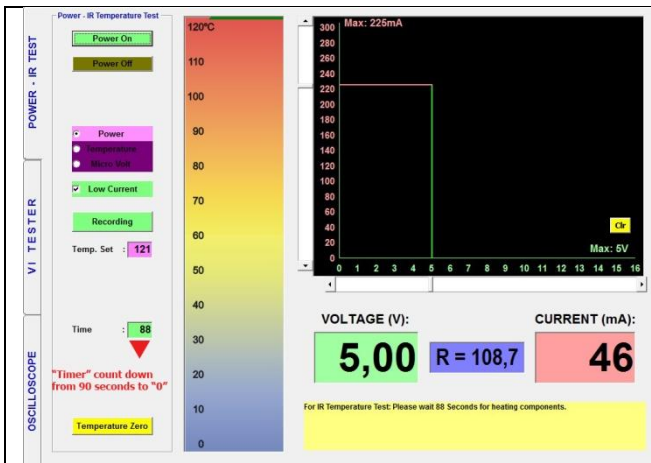

Figure 34: Timer 90 Seconds (Step 3)
4. When the Voltage limitation is reached, if the Electronic circuit board is drawing current, the "Timer" starts counting down from 90 seconds to 0. (Figure 34)